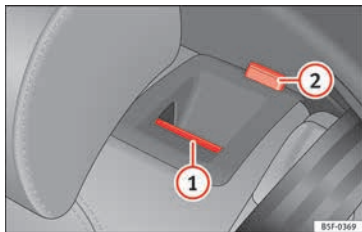

Fig. 150 On the rear seat backrest: release catch (1); red mark (2).
- Push the unlock button » **Fig. 150** (1) forwards and at the same time lift the backrest.
- The rear seat backrest is not engaged when the red marking of the button (2) is visible.
The rear seat backrest is not engaged when the red marking of the button » **Fig. 150** (2) is visible.